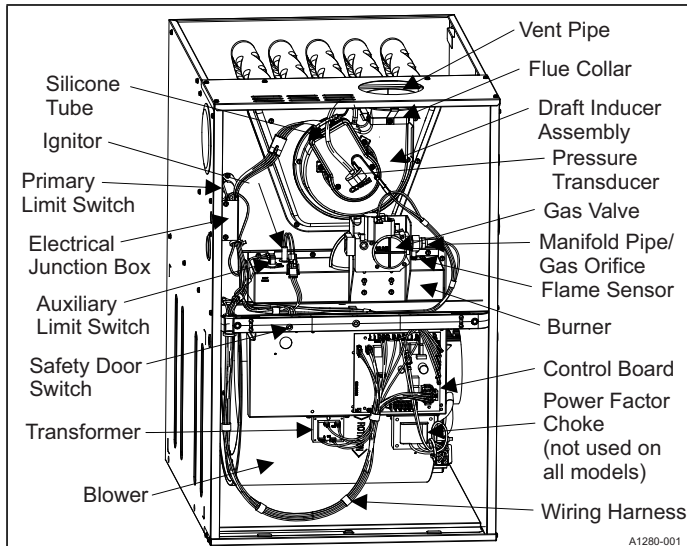

FIGURE 5: Component Location - 80% Ultra Low NOx Models
6. Examine the burner flames to make sure they are in good adjustment. Refer to the pictorial sketch shown in Figure 5 as a comparison to the actual flame.